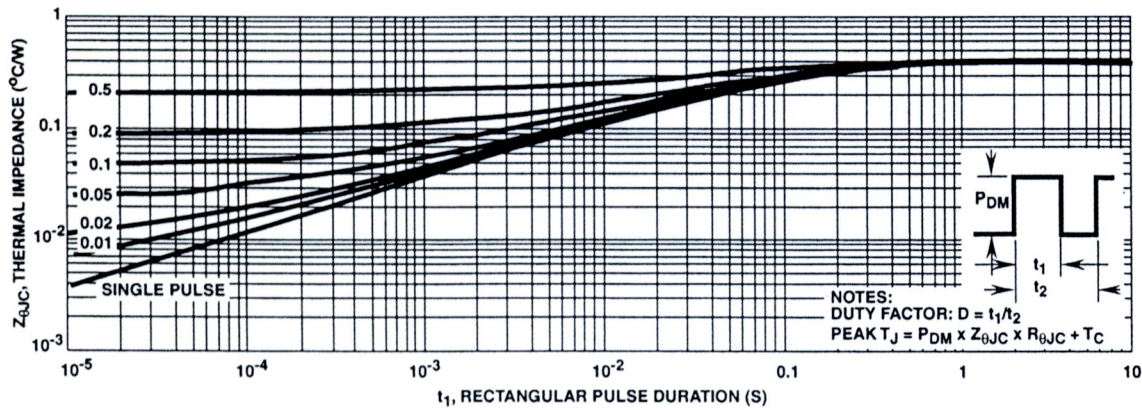

FIGURE 3. MAXIMUM TRANSIENT THERMAL IMPEDANCE
- 3. Repetitive rating: pulse width limited by Max junction temperature. See Transient Thermal Impedance curve (Figure 3).